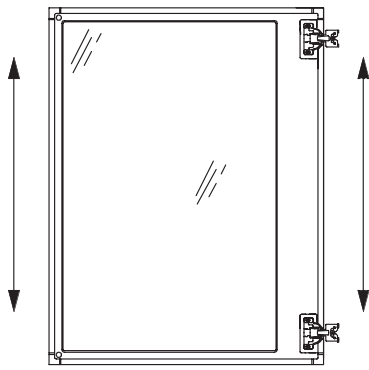

Fig. 10 图10
- A. This screw releases the door from the cabinet and allows up and down adjustment. Fig.10
- A. 此螺丝松开可将门卸下, 并可作上下的位置调整, 如图10所示。